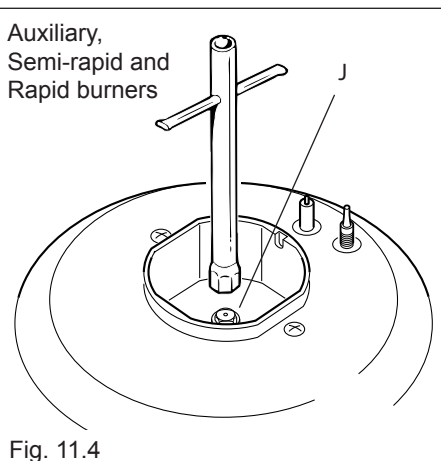

Fig. 11.4
- Using a wrench, substitute the nozzle injectors "J" (figs. 11.4, 11.5) with those most suitable for the kind of gas for which it is to be used.